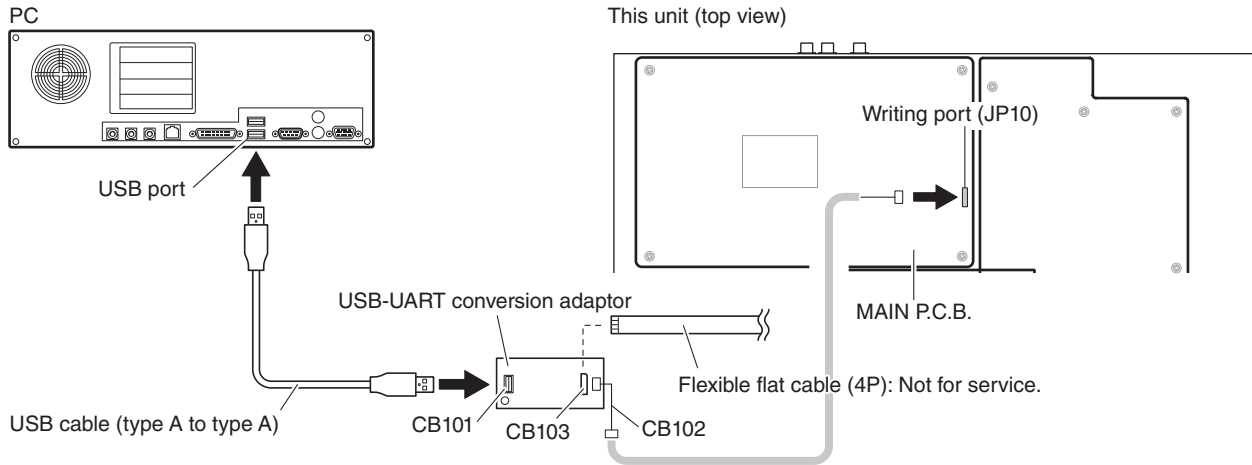

Fig. 3
2. Connect the USB port of the PC to the writing port (JP10 on MAIN P.C.B.) of this unit as shown below. (Fig. 3)